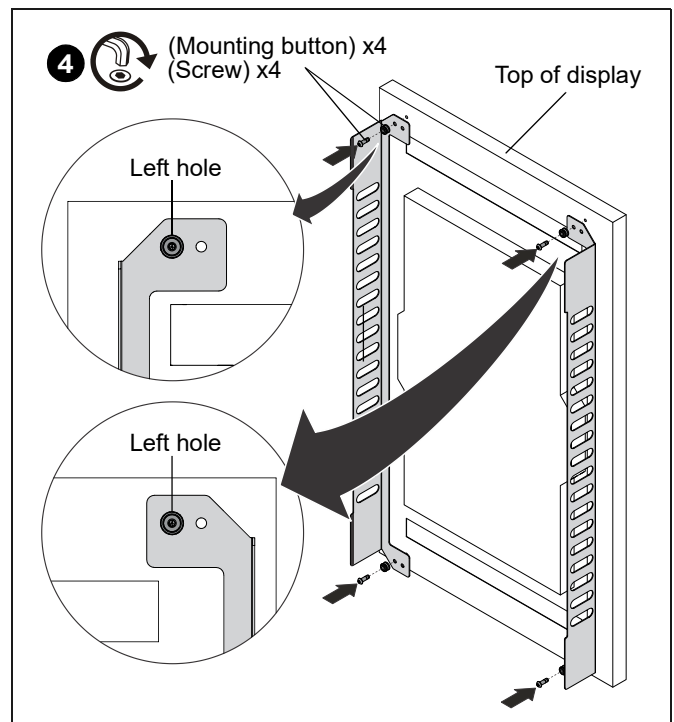

Figure 4
4. Install side covers to back of display using mounting buttons and screws removed in Step 2. (See Figure 4)
IMPORTANT ! : Side covers need to be installed using the correct holes depending on which side of the display it is being installed on. (See Figure 4)